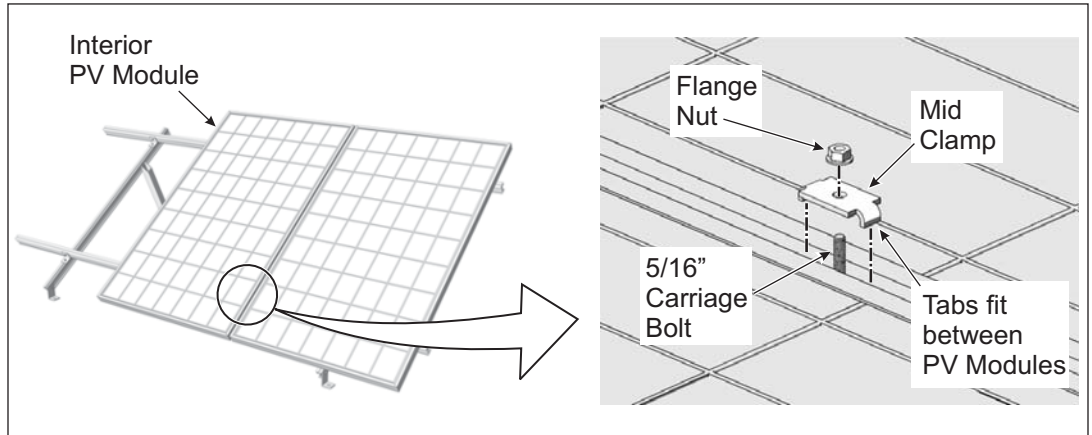

Figure 9-6: Inserting Mid Clamps
- E. Install one Mid Clamp on each of the 5/16" bolts that are between each of the interior PV Modules. Be sure that the tabs of the Mid Clamp rest between the two Modules. Secure each of the Mid Clamps with a 5/16" flange nut. **Torque Mid Clamps to 14-16 ft.-lbs.** (See Figure 9-6)